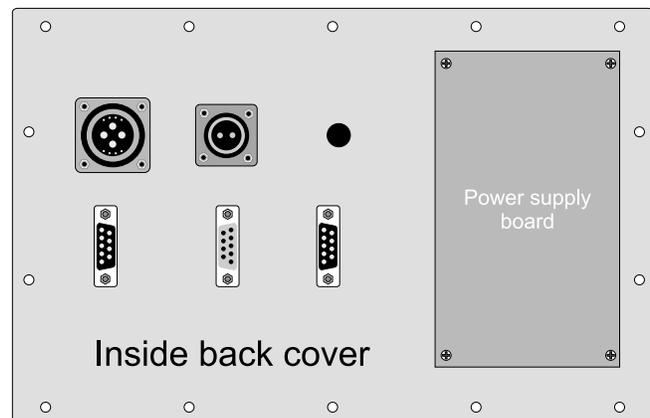

Figure 13
3. If you need to remove the power supply board from the inside of the back cover, begin by disconnecting the power supply wires and the wires leading to the main board. Remove the screws holding the pc board shown in Figure 13.